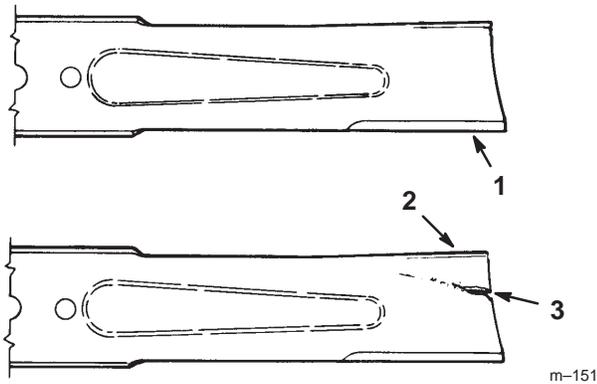

Figure 33
- Inspect the cutting edges (Fig. 33). If the edges are not sharp or have nicks, remove the blade(s) and sharpen them; refer to Sharpening the Blade(s), page 36.
- Inspect the blade(s), especially the curved area (Fig. 33). If you notice any damage, wear, or a slot forming in this area (Fig. 33), immediately install a new blade.